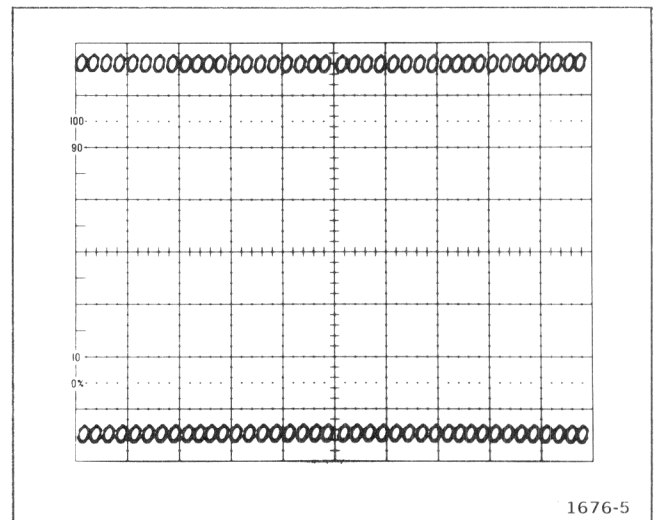

Fig. 5-1. Readout display with Q2225 removed.
c. Check—Crt display for two rows of zeros, 40 zeros to a row with no character overlap. The two rows of zeros are located vertically in the middle of the top and bottom divisions of the graticule (see Fig. 5-1.).